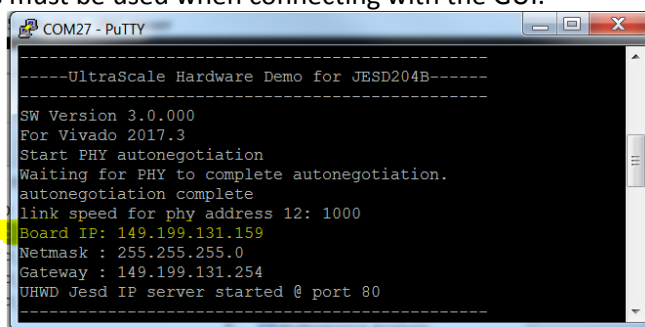

Figure 10 Run Configurations
- Take note of the BOARD IP address output from the UART to the status console (see Figure 10). This IP address must be used when connecting with the GUI.